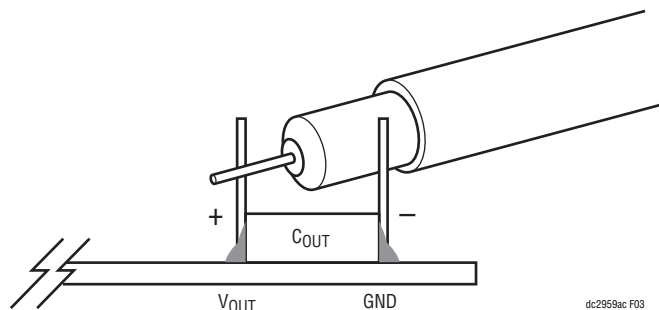

Figure 3. Measuring Output Voltage Ripple
1. When measuring the output or input voltage ripple, do not use the long ground lead on the oscilloscope probe. See Figure 3 for the proper scope probe technique. Short, stiff leads need to be soldered to the (+) and (-) terminals of an output capacitor. The probe's ground ring needs to touch the (-) lead, and the probe tip needs to touch the (+) lead.